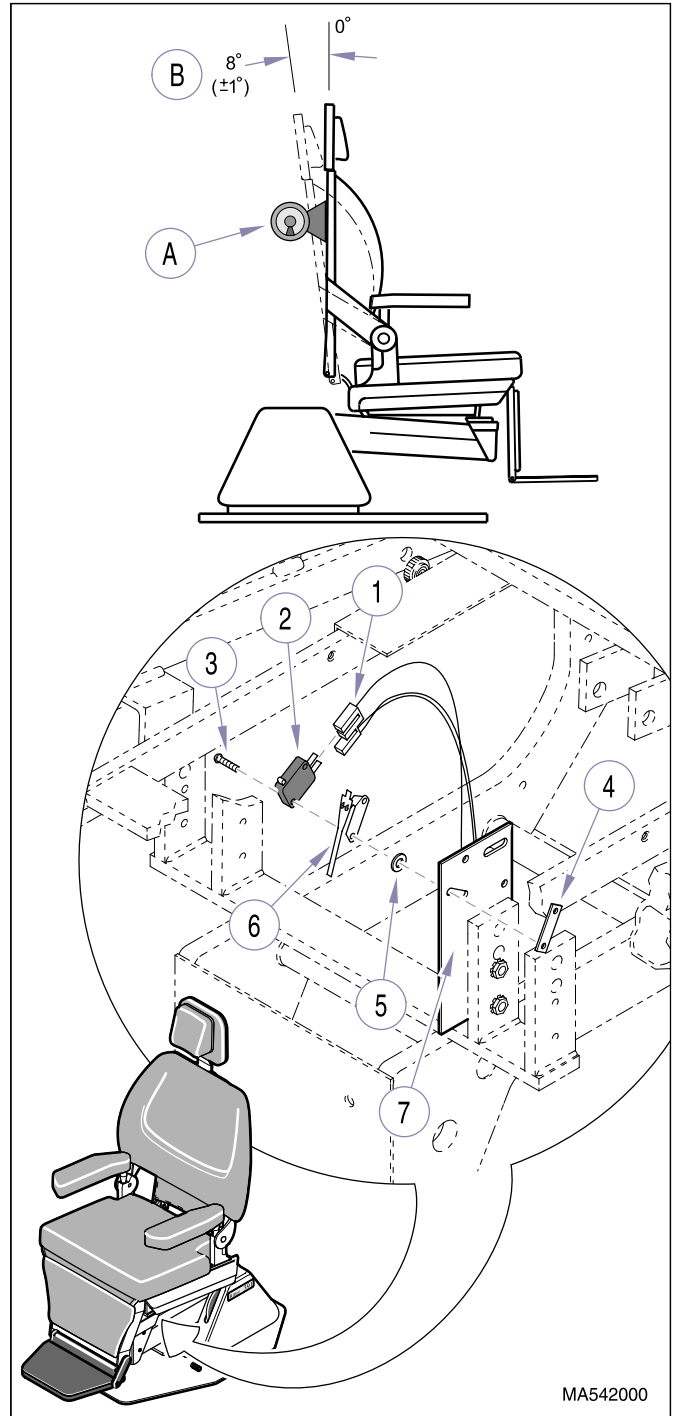

Figure 4-17. Back Up Limit Switch Removal / Installation
- (1) Raise Base Up function all the way up and lower Back Down function all the way down.
- (2) Unplug chair power cord from wall outlet receptacle.
- (3) Perform steps 2 and 3 of para 4.6 to gain access to top side of limit switch.
- (4) Disconnect switch harness (1, Figure 4-17) from back up limit switch (2).
- (5) Remove two screws (3), nut bar (4), back up limit switch (2), two washers (5), and actuator (6) from limit switch plate (7).